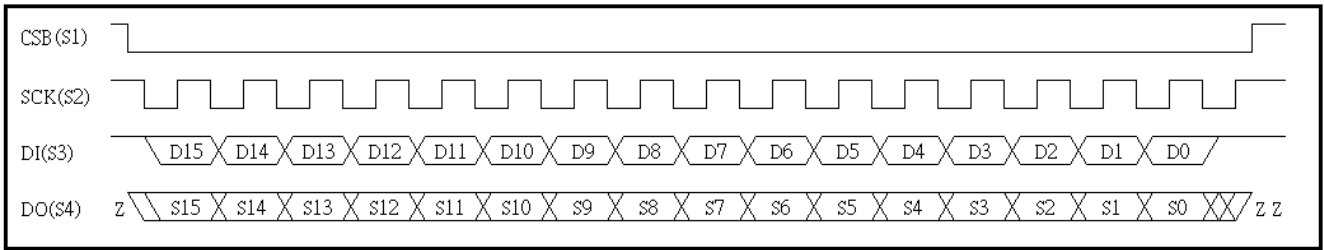

Fig. 23 SPI Data Output Command timing
- a. Command timing reference Fig. 23 SPI Data Output Command timing.